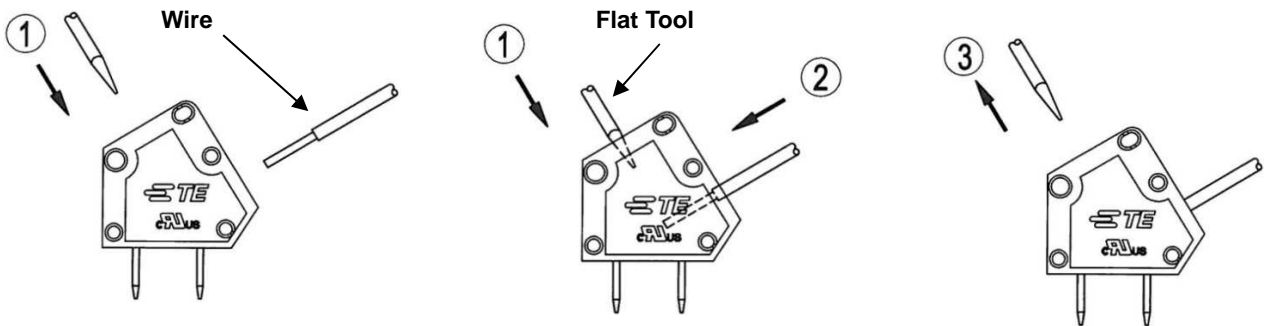

Figure 3: 2834084, 2834085
2. Wire Inserting: see Figure 3